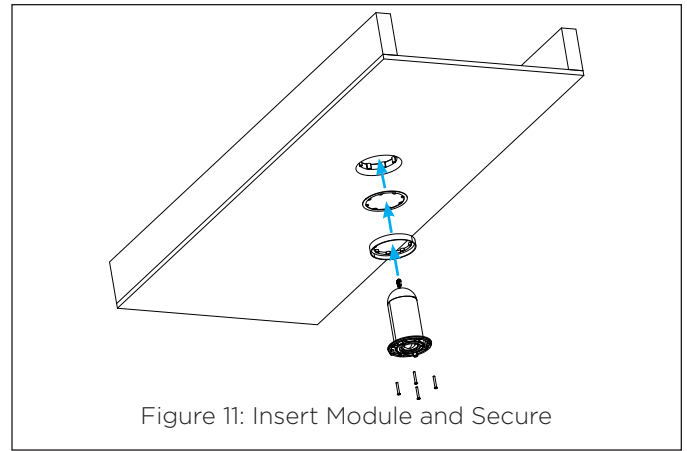

Figure 11: Insert Module and Secure
- Connect the 2-pin connector from the enclosure opening to the 2-pin connector on the back of the speaker module. **Make sure that the connector orientation is correct.** Insert the speaker module into the opening and secure the speaker module to the enclosure using four screws (see Figure 11).